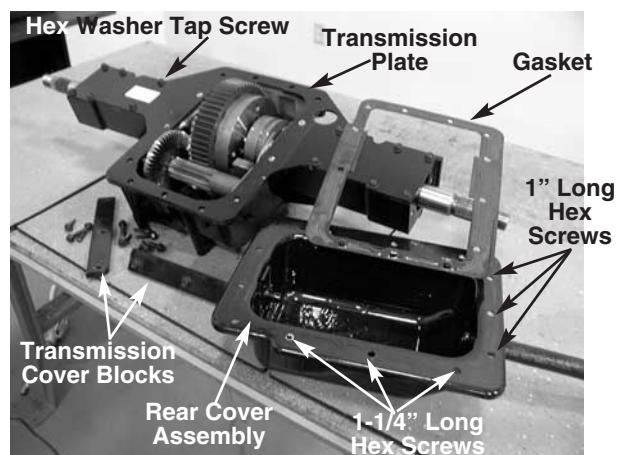

FIGURE 10.
23. Remove all the hex washer tapp screws from the rear cover assembly using a 3/8" socket. See figure 10.
25. Inspect all the gears in the differential for uneven wear or damaged teeth. See figure 10.